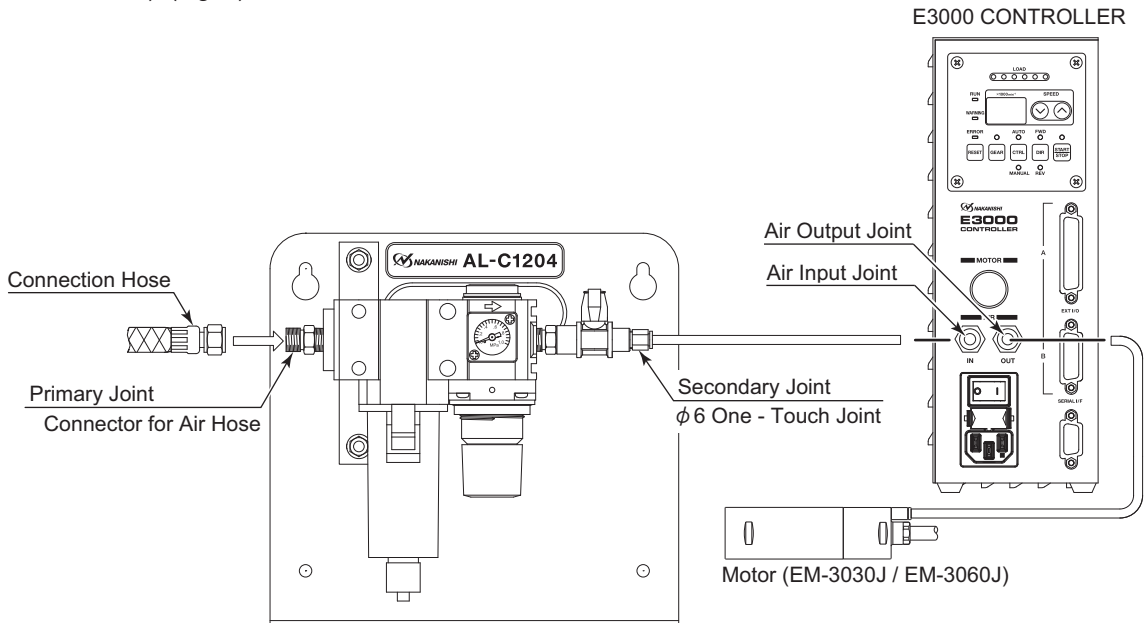

Fig. 6
- (1) Connect the  $\phi$  6.0mm Air Hose to the Primary Joint.
- (2) Connect the  $\phi$  6mm air hose to the Secondary Joint to the Air Input Quick Disconnect on the front of the CONTROLLER.
- (3) Insert the  $\phi$  6mm -  $\phi$  4mm Conversion Adaptor into the Air Output Quick Disconnect on the front of the CONTROLLER. Insert the  $\phi$  4mm air hose from the  $\phi$  6mm -  $\phi$  4mm Conversion Adaptor to the 4mm Quick Disconnect on the back of the motor (  $\phi$  6mm -  $\phi$  4mm Conversion adaptor : CONTROLLER's Standard Accessories). (Fig. 6).